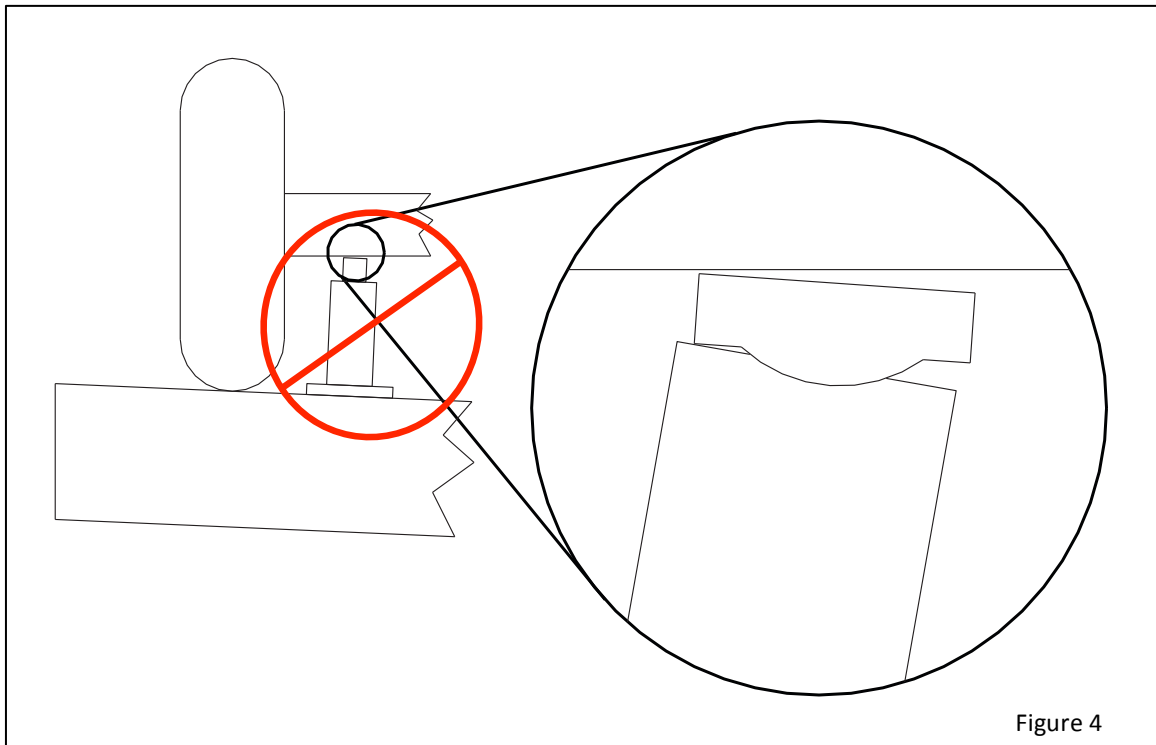

Figure 4
**2. Do not use the jack on maintenance pads (floors) that are not level. (See Figure 4)**